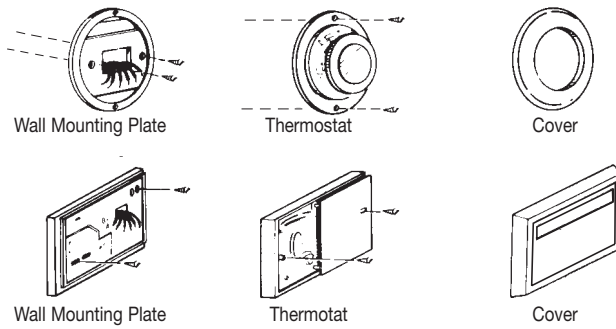

Figure 1
- Two 1.5 V (AA) size alkaline batteries
■ Remove existing thermostat cover and thermostat. See Figure 1. Some thermostats will have screws or other locking devices that must first be removed. Once the wall mounting plate is exposed, look for wires.
If wires are not visible, they may be connected to the back of the wallplate. Again, look for screws, tabs, etc. Some models have doors that open to expose wires and mounting screws. See Figure 1.